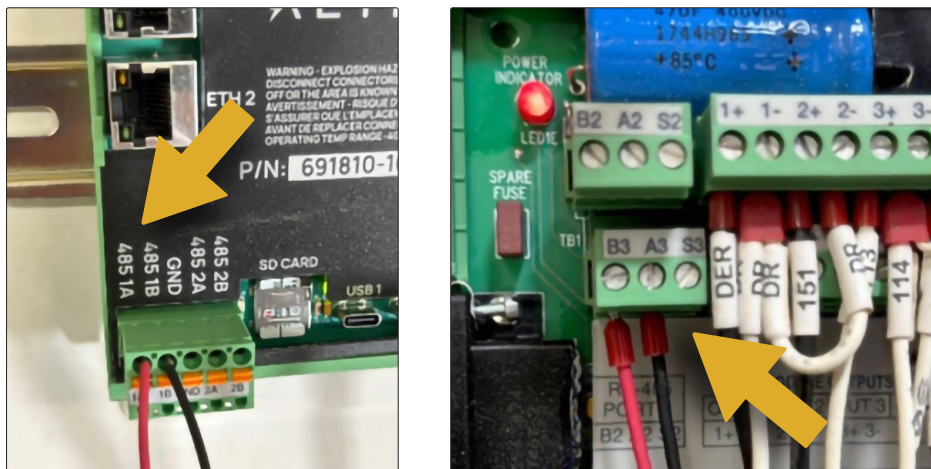

Figure 3
- Wire the RS-485 port 1 on the ACM-4000 to the RS-485 port on the DE-3000 power supply board. See *Figure 3*.